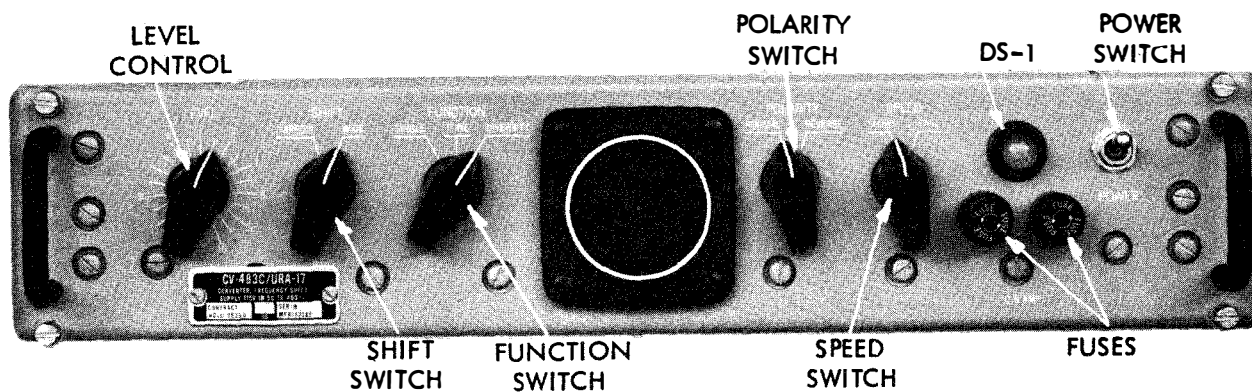
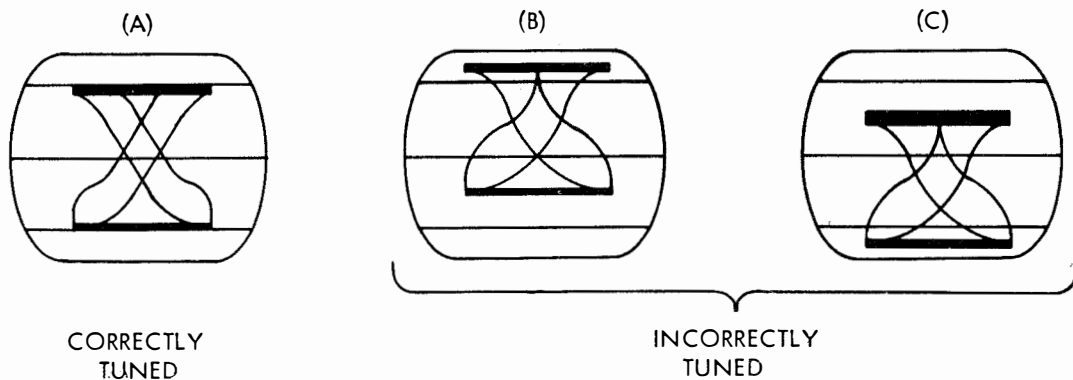

Figure 3-1. Frequency Shift Converter CV-483C/URA-17, Front Panel Controls
Figure 3-2. Tuning Indicator Patterns
b. DESCRIPTION OF CONTROLS. - All controls normally used during operation are located on the front panels of the two identical converters (figure 3-1). Table 3-1 lists all operator's controls by name and function. Other controls are to be adjusted only by a technician.
(1) BEFORE USE. - Ascertain if equipment is connected for diversity or single-receiver operation. Allow the associated receivers and teletype printer(s) to warm up (see applicable technical manuals). Turn the converter POWER switches to the On (up) position and allow a five minute warmup period.
(2) DURING USE. - Adjust converters and associated equipment as directed in paragraph 3-2g(1) for single-receiver operation or paragraph 3-2g(2) for diversity operation.
(3) SECURE. - To secure the AN/URA-17C, turn POWER switch on each converter to Off (down) position.
d. INDICATOR PRESENTATIONS. - Figure 3-2 illustrates the tuning indicator displays obtained when the associated receiver is properly tuned (A) and when the associated receiver needs retuning (B or C).
(1) SINGLE-RECEIVER OPERATION. - The need for retuning the associated receiver to compensate for frequency drift can be determined by observing the converter tuning indicator pattern (figure 3-2). If the pattern departs from that in (A) of figure 3-2, retune the receiver.
(2) DIVERSITY OPERATION. - Retuning the
(1) CONTROLS. - The controls used by the operator are illustrated in figure 3-1 and listed in table 3-1.
(2) INDICATOR PRESENTATION. - Refer to figure 3-2 for tuning indicator presentations during receiver tuning.
(1) SINGLE-RECEIVER OPERATION. - Either converter may be adjusted for single-receiver operation, as follows:
bandwidth to approximately 800 cps for narrow-shift signals or to approximately 3 kc for wide-shift signals. Tune receiver until strongest beat-note is heard in headphones plugged in receiver headphone jack. Adjust receiver tuning for symmetrical, vertically centered pattern on tuning indicator (as in (A) figure 3-2). There are sometimes two receiver tuning positions that give a proper tuning indication; always select the stronger. Adjust audio output of receiver to 60 milliwatts.
(2) DIVERSITY OPERATION. - Each converter of the AN/URA-17C is adjusted for diversity operation as
- Step 7. Tune associated receiver to desired rf signal. Set receiver bandwidth to approximately 800 cps if narrow-shift signals are being received or to approximately 3 kc if wide-shift signals are being received. Tune receiver until strongest beat-note is heard in headphones plugged in receiver headphone jack. Adjust receiver tuning for a symmetrical, vertically centered pattern on tuning indicator (as in (A) figure 3-2). There are sometimes two receiver tuning positions that give a proper tuning indication; always select the stronger. Adjust audio output of receiver to 60 milliwatts.
- (1) Turn receiver and teletype printer power switches to On.
- (2) Set converter controls as follows: